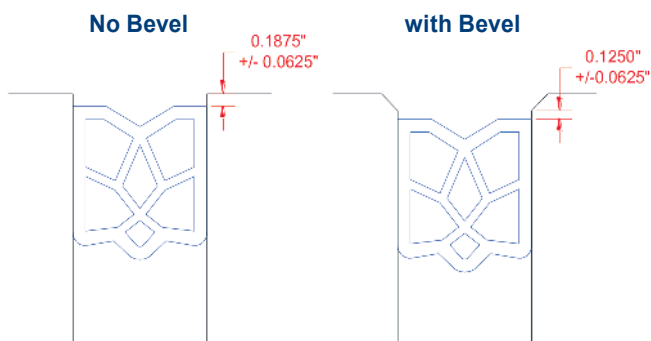

Figure 1 – Proper Seal Depth Setting
- Seal depth shall be 3/16-inch +1/16-inch below the concrete surface for straight cut joints or 1/8-inch +1/16-inch below the bottom edge of the bevel on beveled joints (Fig. 1).